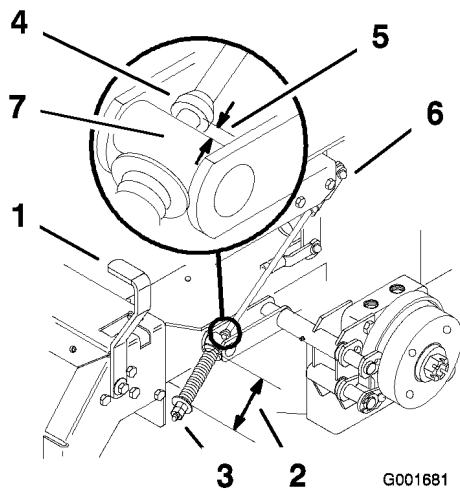

Figure 47
2. Measure the length of the spring; the measurement should be 2-3/4 inch (74 mm) between the washers (Figure 47).
- A. Loosen the jam nut below the spring and tighten the nut directly below the yoke (Figure 47).
6. Measure the distance between the trunnion roller and the collar on the brake rod. The measurement should be 3/16 to 1/4 inch (5 to 7 mm) (Figure 47).
- B. Turn the bottom adjusting nuts until the correct measurement is obtained (Figure 47).